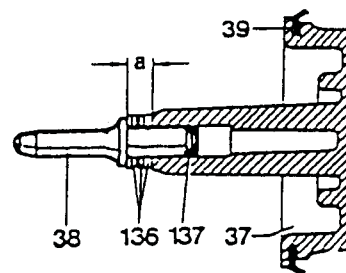

FIGURE 5
As of April 1986 production the above mentioned transmissions are equipped with a modified brake band piston B1 with removeable pressure pin (previously caulked). The pressure pin (38) is held in place in the piston by an O-ring 1.0 mm and 1.5mm thicknesses ( Figure 5).